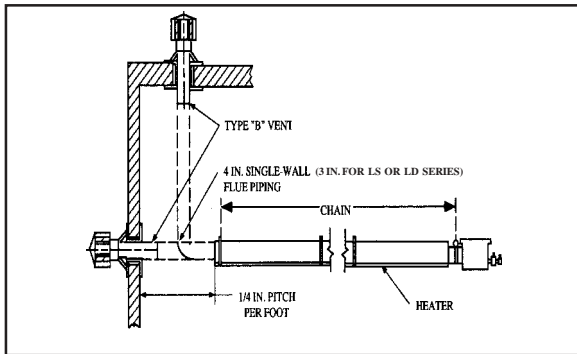

Fig. 2-26
- A common flue of 6 in. diameter (4 in. for LS and LD models) must be used for double venting of units. One thermostat must control both units. When common venting, flue should be connected so that the by-products of one heater cannot flow into the adjoining flue of the other heater. A dual exhaust assembly is available from Detroit Radiant Products. See figures 2-26 through 2-29.
- Horizontal flues (side wall venting) should be pitched down toward outlet, ¼ in. per ft. of the vent length, to prevent rain from entering the heater (see figure 2-26). Do not pitch heater. Vertical vents do not require pitch.